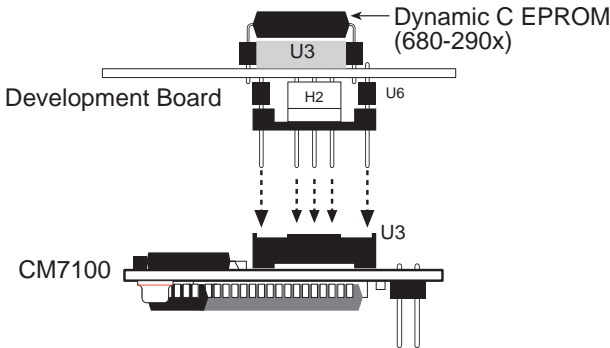

Figure 2-8. Installation of CM7100 Development Board and Development EPROM
4. If an EPROM is installed in socket U3 on the CM7100, remove the EPROM. Plug a Dynamic C development EPROM (Z-World part number 680-290x) into the EPROM socket (U3) of the Development Board. See Figure 2-8.
5. Plug the Development Board into the EPROM (U3) and H3 sockets on the CM7100 as shown in Figure 2-8. Headers U6 and H2 on the underside of the Development Board must match the CM7100 EPROM and H3 sockets exactly.